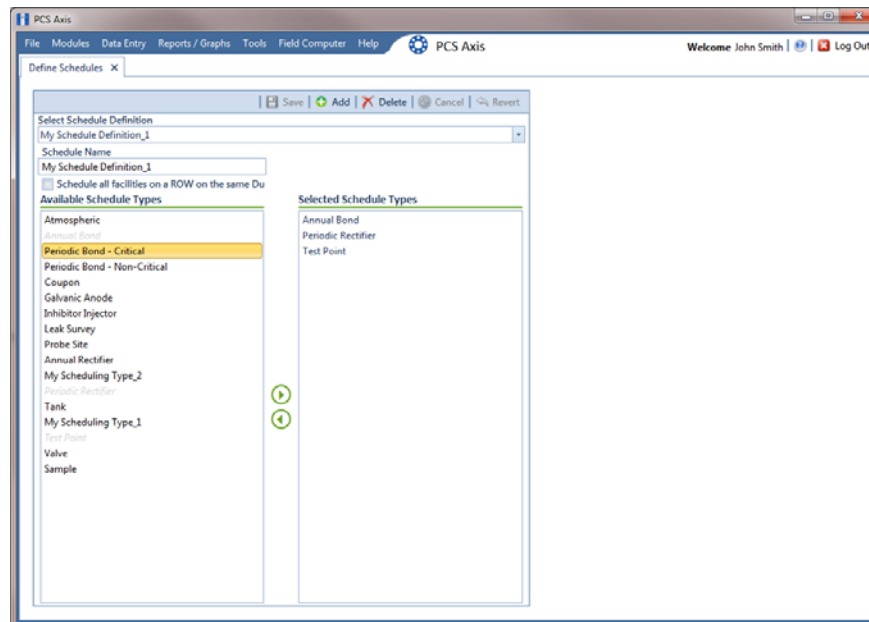

Figure 9-12. Adding a Schedule Definition Addition
- 1 Click **Data Entry** > **Define Schedules** to open the *Define Schedules* window (Figure 9-12).
- 4 Click the top arrow button  to move the schedule type(s) to the *Selected Schedule Types* pane (Figure 9-12). Click  **Save**. The addition is now available in the *Select Schedule Definition* selection list.
- 1 Click **Data Entry > Define Schedules** to open the *Define Schedules* window (Figure 9-12, page 450).